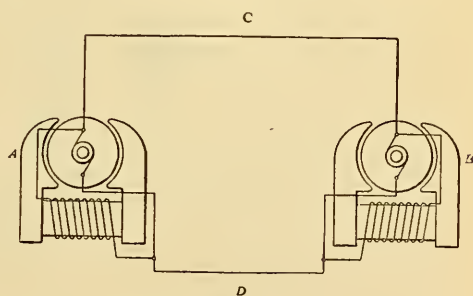

Fig. 2
95. Fig. 2, page 17, illustrates an electric system in which "A" is an electric generator, "C" and "D" the wires, and "B" an electric motor. When the generator is caused to rotate it forces a current of electricity through the wire "C," through the motor "B," returning to the generator through the wire "D." This completes the "electrical" circuit.